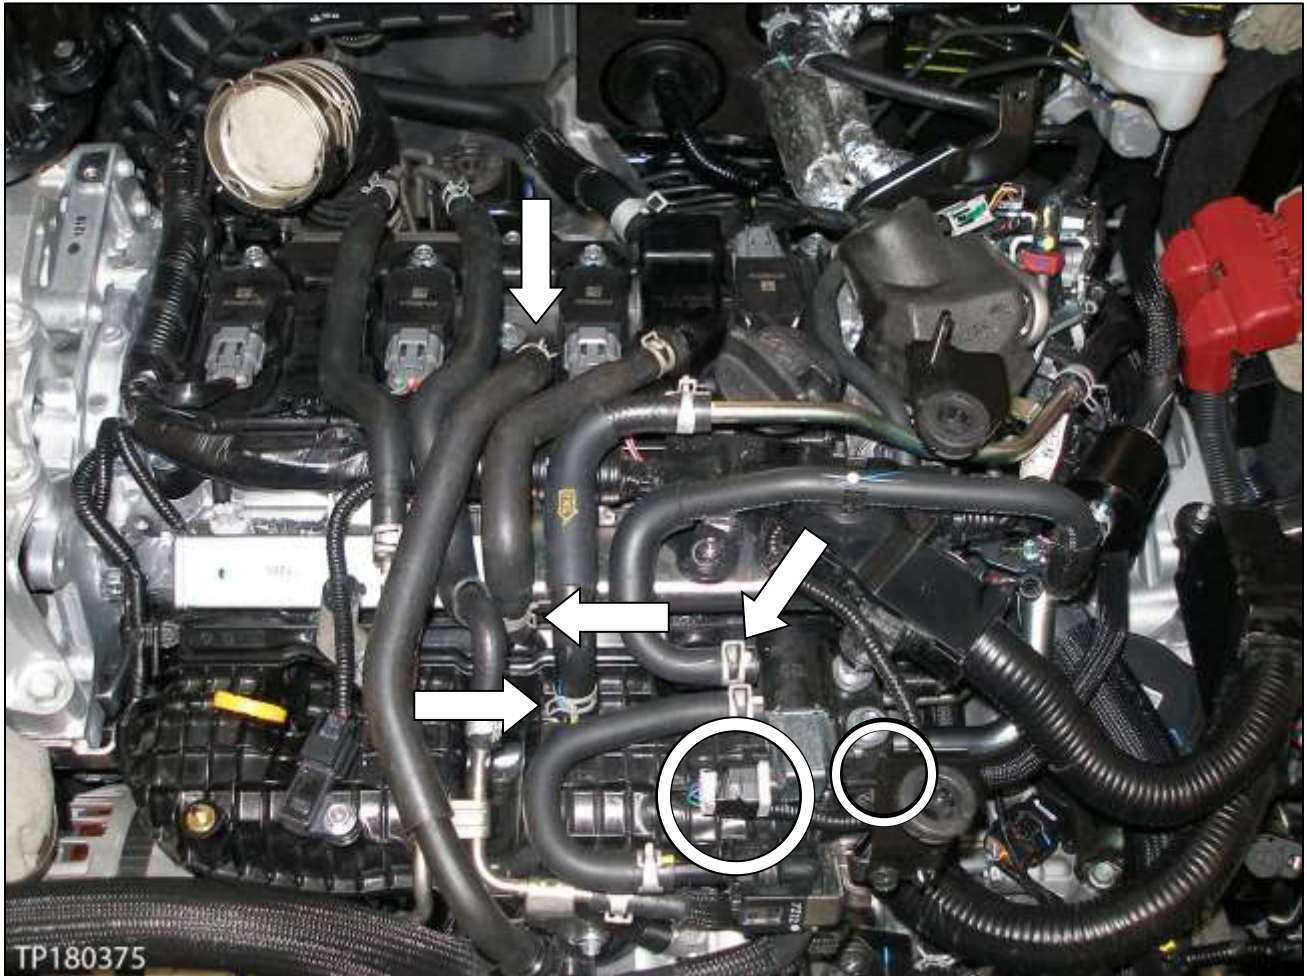

Figure 74
32. Connect the EVAP canister purge volume control solenoid valve electrical connector, and then fasten the harness clip (see circles in Figure 74).
33. Connect, and then clamp the one end of each of the four (4) hoses (see arrows in Figure 74).